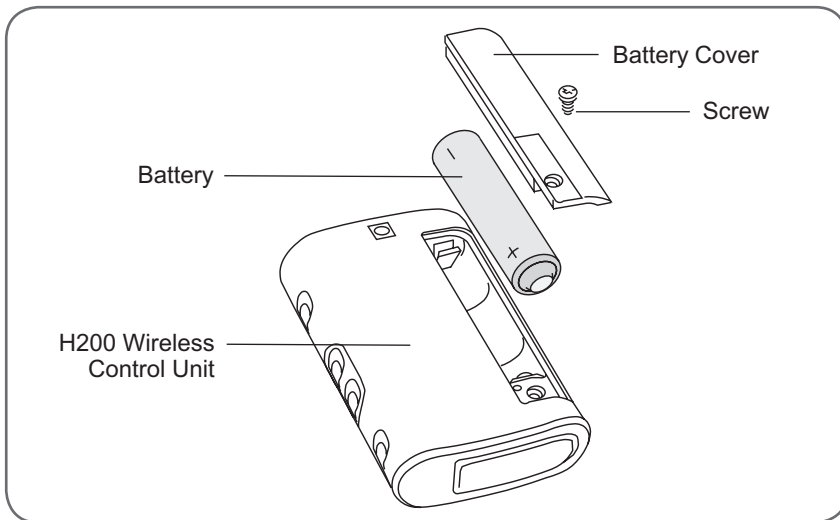

Figure 11-1: Replacing the Control Unit Battery
1. Using a Phillips screwdriver, remove the screw from the battery cover on the back of the Control Unit. See Figure 11-1.